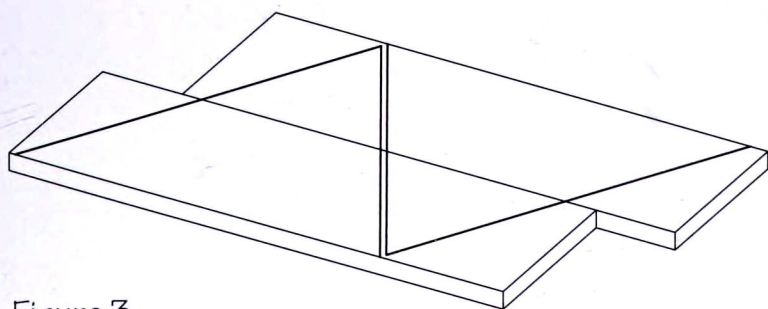

Figure 3
2. You can see from the pattern that you will need stock at least $13\frac{1}{2}$ " wide, to be glued up from two 7" or three 5" boards. By offsetting the boards when you glue them, and by rotating the pattern, you can get by with two 7" boards 22" long (refer to figure 3). Choose your stock accordingly, and use the pattern to make sure you'll get two attractive shelves.